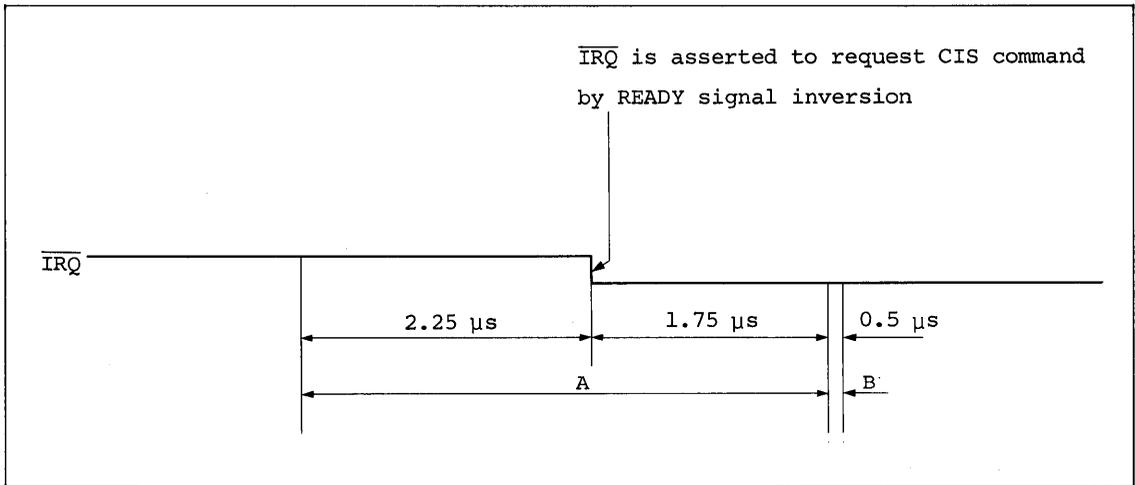

Figure 6-60. Command Rejection Timing 1
In 8-inch mode, the FDC rejects all commands except ABORT if those commands are issued within the period 2.25  $\mu$ s before to 1.75  $\mu$ s after (or 4.5  $\mu$ s before to 3.5  $\mu$ s after in 5-inch mode) the  $\overline{\text{IRQ}}$  signal is asserted to request a CIS command initiated by READY signal inversion, as shown in figure 6-60. The time during which commands are rejected is indicated by period A. In addition, for 0.5  $\mu$ s (1.0  $\mu$ s in 5-inch mode) (period B) after period A, the FDC accepts commands but the BSY bit of the status register (STR) remains cleared. The BSY bit of the STR is set when the host system writes the first-byte parameter to the FDC. Changes in the STR according to the timing of each issued command are summarized in table 6-15. Note that the FDC will not reject a command if the  $\overline{\text{IRQ}}$  signal is asserted to request a CIS command initiated by SEEK or RECALIBRATE command completion.
- Notes: 1. Figure 6-60 is the timing chart for 8-inch mode. For 5-inch mode, the periods must be doubled (2.25 μs → 4.5 μs, 1.75 μs → 3.5 μs, and 0.5 μs → 1.0 μs).
If the contents of the STR are HEX 00, a command code was issued during period B shown in figures 6-60 and 6-61. In this case, the FDC has accepted the command code and the next process, such as a parameter transfer, can be performed after the TXR bit of the STR is checked.
On the other hand, if the contents of the STR are HEX 10, a command code may be issued during period A or a period other than A and B shown in figures 6-60 and 6-61. In this case, whether or not the FDC has accepted the command code can be determined by the BSY bit of the STR as follows. If BSY is set 0.6  $\mu$ s (8-inch mode) or 1.2  $\mu$ s (5-inch mode) after the TXR bit has been set, the FDC has accepted the command correctly and the next process, such as parameter transfer, can be performed. If BSY is cleared, the FDC has rejected the command and the command code must be issued again.
Note: STR is HEX 00 during the T2 state if a command code is issued during period B shown in figures 6-60 and 6-61.
If a command is issued during period A shown in figures 6-60 and 6-61, the BSY bit is cleared 0.6  $\mu$ s (8-inch mode) or 1.2  $\mu$ s (5-inch mode) after the TXR bit has been set. In addition, if a command is issued during period B shown in figures 6-60 and 6-61, the BSY bit is always cleared after the TXR bit has been set.